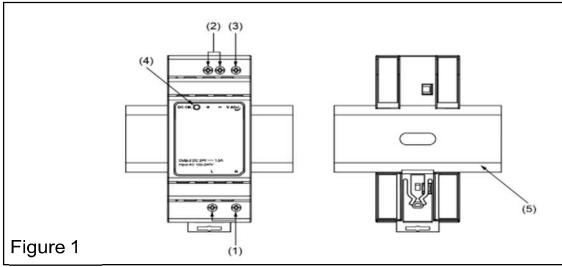

Figure 1
2. Device description (Fig. 1)
5.1. Input connection (Fig. 1 (1), Fig. 5)
Use L and N connections of input terminal connector (see Fig. 1 (1)) to establish the 100-240 VAC connection. The unit is protected with internal fuse (not replaceable) at L pin and it has been tested and approved on 20A (UL) and 16A (IEC) branch circuits without additional protection device.
5.2. Output connection (Fig. 1 (2))
Use the "+" and "-" screw connections to establish the 12 VDC connection. The output provides 12 VDC. The green LED DC OK displays correct function of the output (Fig. 1 (3)). The device has a short circuit and overload protection and an over voltage protection limited to < 18 VDC.